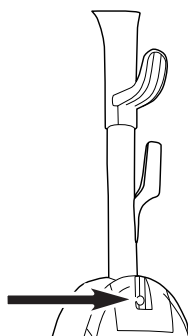

Fig. 1
2. Line up the small hole on the handle with the small hole on the vacuum cleaner and insert the screw. Make sure the screw is tightened securely (Fig. 1).